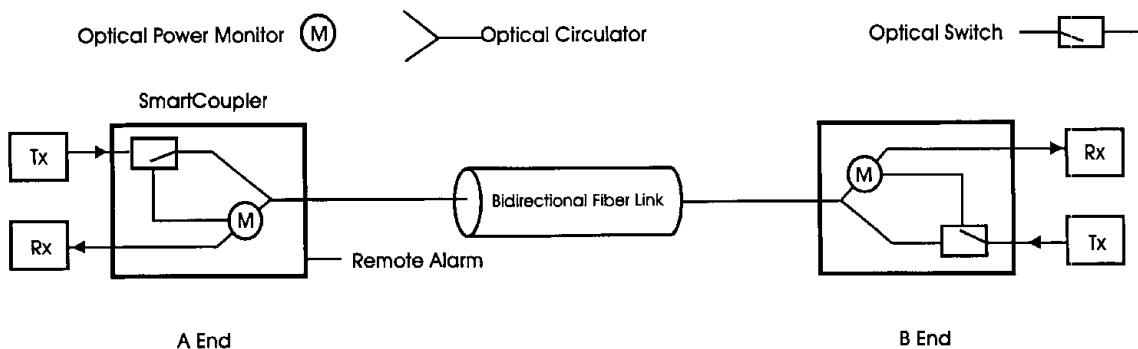

Figure 1 - SmartCoupler (OC) Optical Circuit
The optical circuit of the SmartCoupler (OC) unit is shown in Figure 1. It consists of a low loss optical circulator for bi-directional access packaged with an optical tap, a power monitor and an optical switch. SmartCoupler (OC) modules are installed at each end of the link and are connected directly to the Transmit/Receive fibers of the transmission equipment.